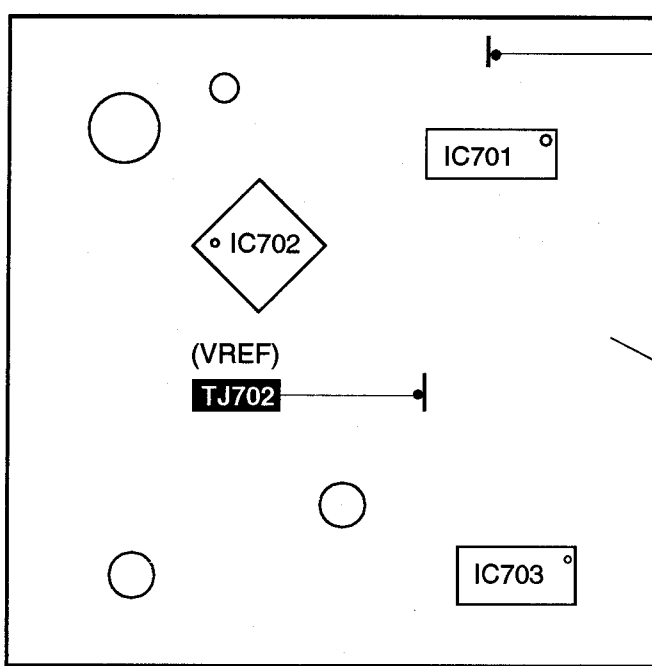

Fig.1
1. Connect the oscilloscope's CH. 1 probe across **TJ701** (RF) (+) and **TJ702** (V-Ref.) (-) on the servo P.C.B. (Refer to Fig. 1 on page 17)